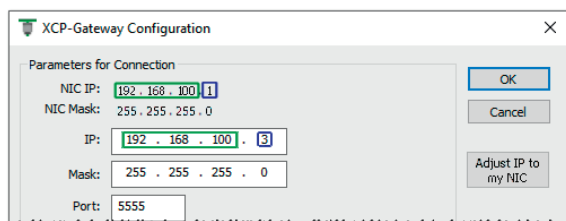

Fig. 5-25: Adjust IP to my NIC command
- ▶ If you use PC and network adapter card for both configuration and measurements, the IP addresses of the network adapter and the XCP-Gateway must be in the same address range (Fig. 5-25, green markers), but they must not be identical (Fig. 5-25, blue markers). If necessary, the IP address can be adjusted by clicking the button **Adjust IP to my NIC**. The IP address is automatically adjusted to the IP address of the network adapter. A manual modification of the **IP address** entry is not required.